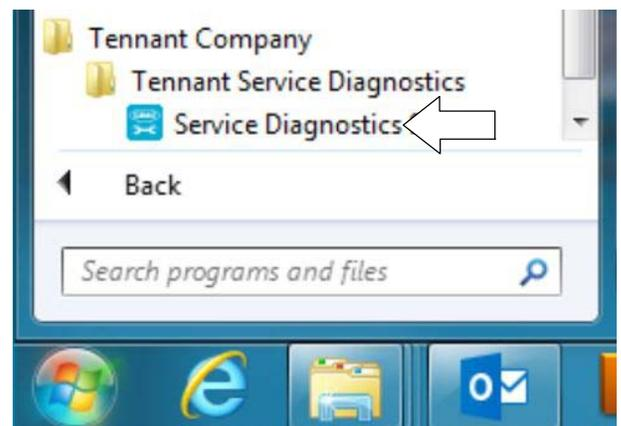

Fig. 12
1. Start the Service Software Application program “**Service Diagnostics...**” (Figure 2). Refer to Figure 12 for further details to access Software.
The software is pre-installed on your computer as shown below. The software application is titled “Service Diagnostics” (Figure 12).
7. After the service application software is installed on your computer, refer to figure 12 to access the program.
5. After the software is installed on your computer, refer to figure 12 to access the program.